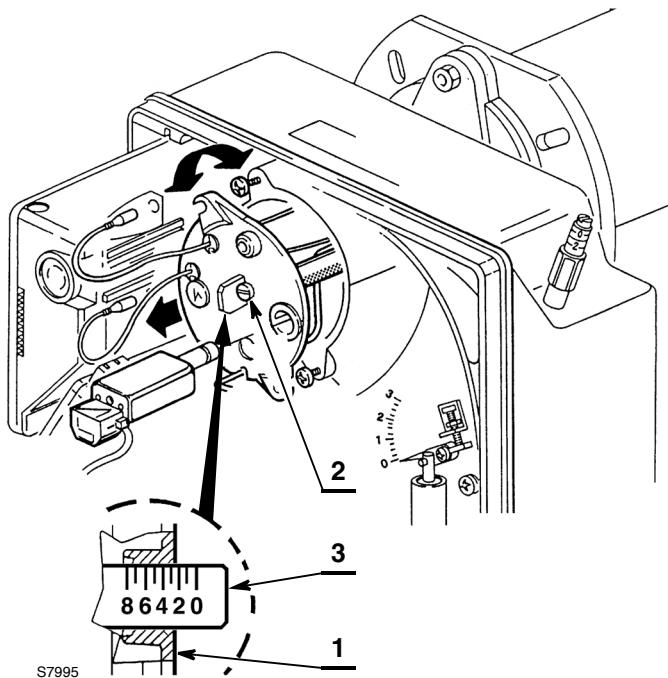

Fig. 19
- Rotate the adjustment screw 2) (Fig. 19) clockwise or anti-clockwise until the notch on the regulating rod 3) is level with the outer surface of the nozzle-holder assembly 1).